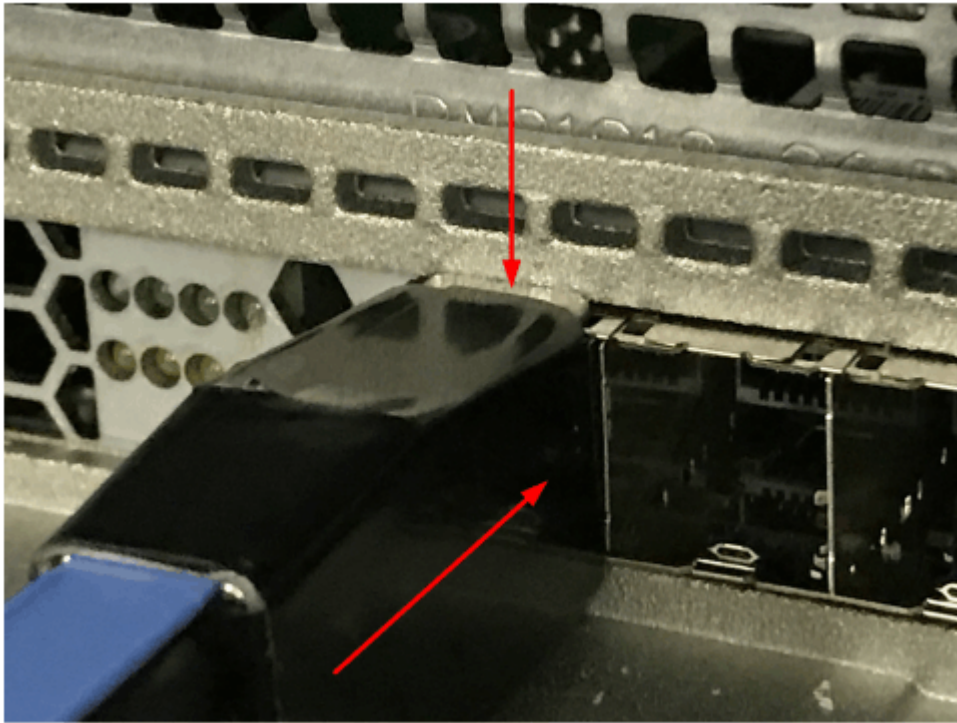

Figure 64. Pushing the SAS cable latch closed
- Insert the connector gently until it clicks into place. If you feel resistance, the connector is probably oriented the wrong way. Do not force it. See Figure 64 on page 94.